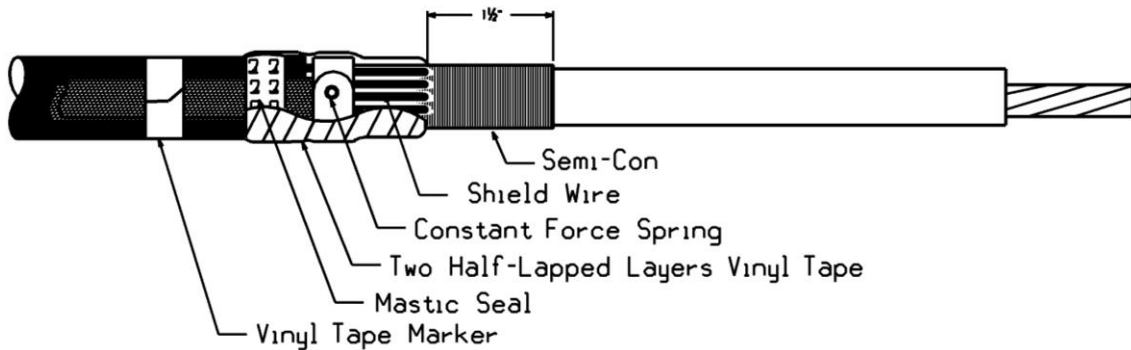

Figure 15
4. Wrap two half-lapped layers of vinyl tape around the mastic seal, constant force spring and exposed metallic shield. Do not allow the vinyl tape to lap onto the cable semi-con. Do not apply more than 2 half lapped layers. See Figure 15.